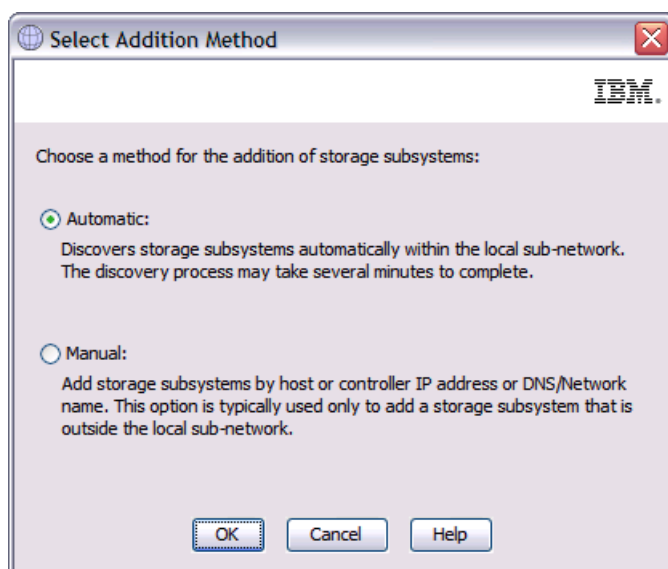

Figure 5-23 Select Addition Method - Automatic
2. Select Automatic discovery as shown in Figure 5-23 and click **OK**.